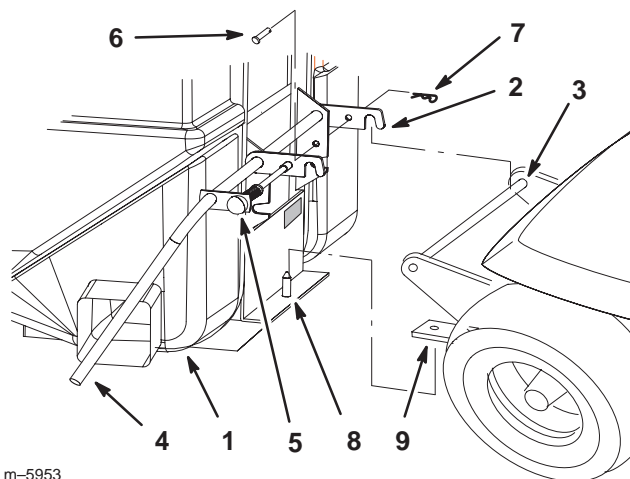

Figure 11
4. Place the quick hitch hooks, on the collector, over the quick hitch round bar (Fig. 11).
5. Pull the hitch lever up. This will raise the hopper and engage the collector pin into the hitch extension (Fig. 11).
6. Pull locking pin out to allow the collector to be raised into full upright position (Fig. 11).
7. When the collector is in upright position, release the locking pin and lock collector in position (Fig. 11).
8. Secure left side hitch hook with a clevis pin (3/8 x 1-1/2 in.) and a hairpin cotter (Fig. 11).